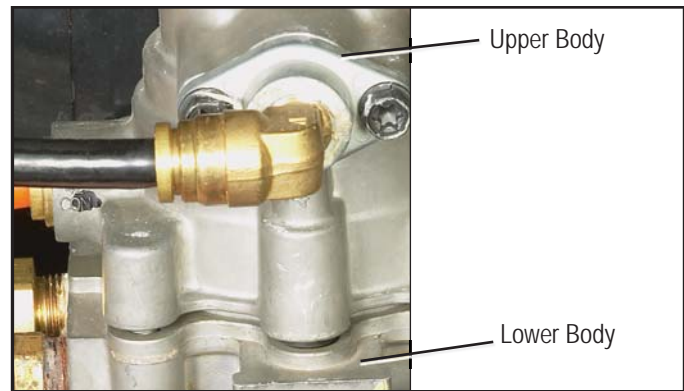

Figure 9 - POSITIONING THE UPPER & LOWER BODY
2. As shown in Figures 9 and 10, align the valve lower body with the upper body. Push the body halves together. Insert two of the four screws (finger tight) into the lower body mounting holes closest to the supply port first. This will help with alignment. One extra screw is included in this kit in the event one is lost during installation.